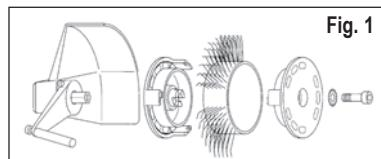
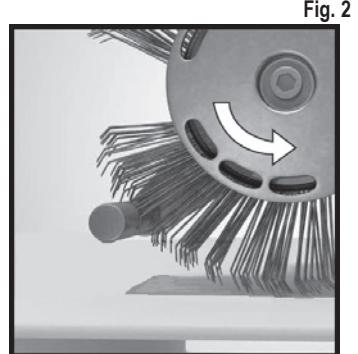

Fig. 1
Fig. 2
1. Interrupt supply of power and then fasten **MBX®** Bristle Blaster® 23 mm belt correctly to the tool using the related adapter system (pay attention to direction of travel) and the related serrated lock washer and screw. **See Fig. 1 and Fig. 2**
Are you using an **MBX®** belt with the wrong direction of travel? – Fit the brush belt such that it runs in the correct direction (see section 5, Placing in operation, Fig. 2).